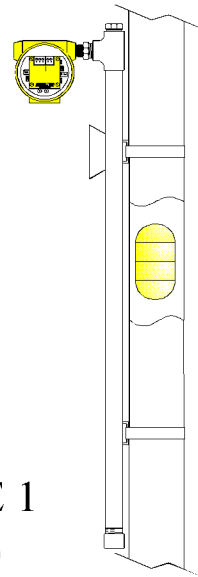

FIGURE 1
1. The Sensing Element tracking a Magnetic Float in the PM-26 Chamber. See Figure 1 (CLT-C25)